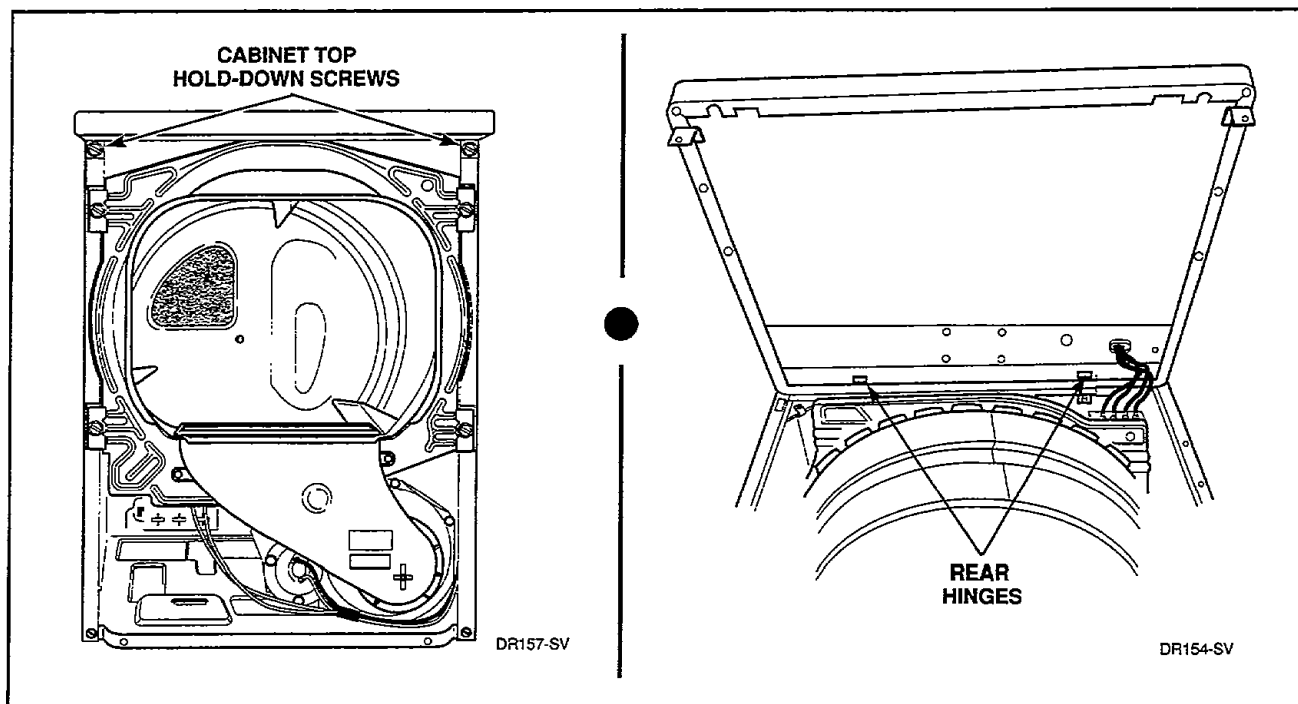

Figure 31
- Remove two cabinet top hold-down screws, *Figure 31*.
- Lift cabinet top to a vertical position by hinging it on the rear hinges, *Figure 31*.
- Carefully withdraw wire harness through hole in cabinet top and lift the top off the top hinges, *Figure 31*.